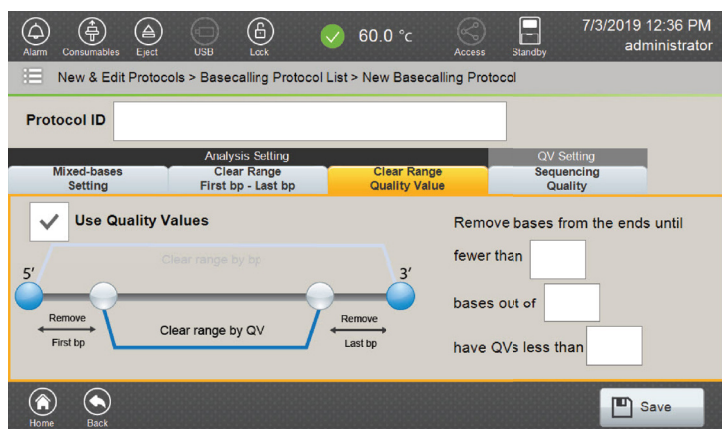

Figure 125. 'Clear Range Quality Value' tab.
<p>Clear Range Quality Value</p>	<p>Checking the “Use Quality Values” box defines the first and last bp using the quality value specified (Figure 125).</p> <p>Note: When creating a new Basecalling Protocol, the default setting for Clear Range Quality Value is disabled (box unchecked).</p> <p>The software creates a clear range by removing bases from the 5’ and 3’ end of the read based on QV values. In the resulting clear range, no sliding window of ‘bases out of’ (e.g., 30) will contain more than the specified number of bases (e.g., 4 in the ‘fewer than’ field) with a QV value below that set in the ‘have QVs less than’ field (e.g., 20) (Figure 125). Any sliding 30 base window in the first or last part of the sequence that does not meet these parameters is trimmed from these ends.</p> <p>Minimum and maximum values allowed by software for ‘fewer than’ and ‘bases out of’ fields are 1bp and 1,200bp, respectively. The value entered in the ‘fewer than’ field must always be less than the ‘bases out of’ field.</p> <p>Minimum and maximum values allowed by software in the ‘have QVs less than’ field are 1 and 60, respectively.</p>
7. Alternatively, the Clear range can be defined by quality value by selecting the "Clear Range Quality Value" tab and checking the "Use Quality Values" box (Figure 125). In the 'fewer than' field, enter the number of bases that can have a QV lower than that specified in the 'have QVs less than' field over a window size specified in the 'bases out of' field. For example, fewer than 4 bases out of a window size of 30 bases can have QVs less than 20 (equivalent to no more than 4 bases over a window size of 30 bases can have a QV less than 20).